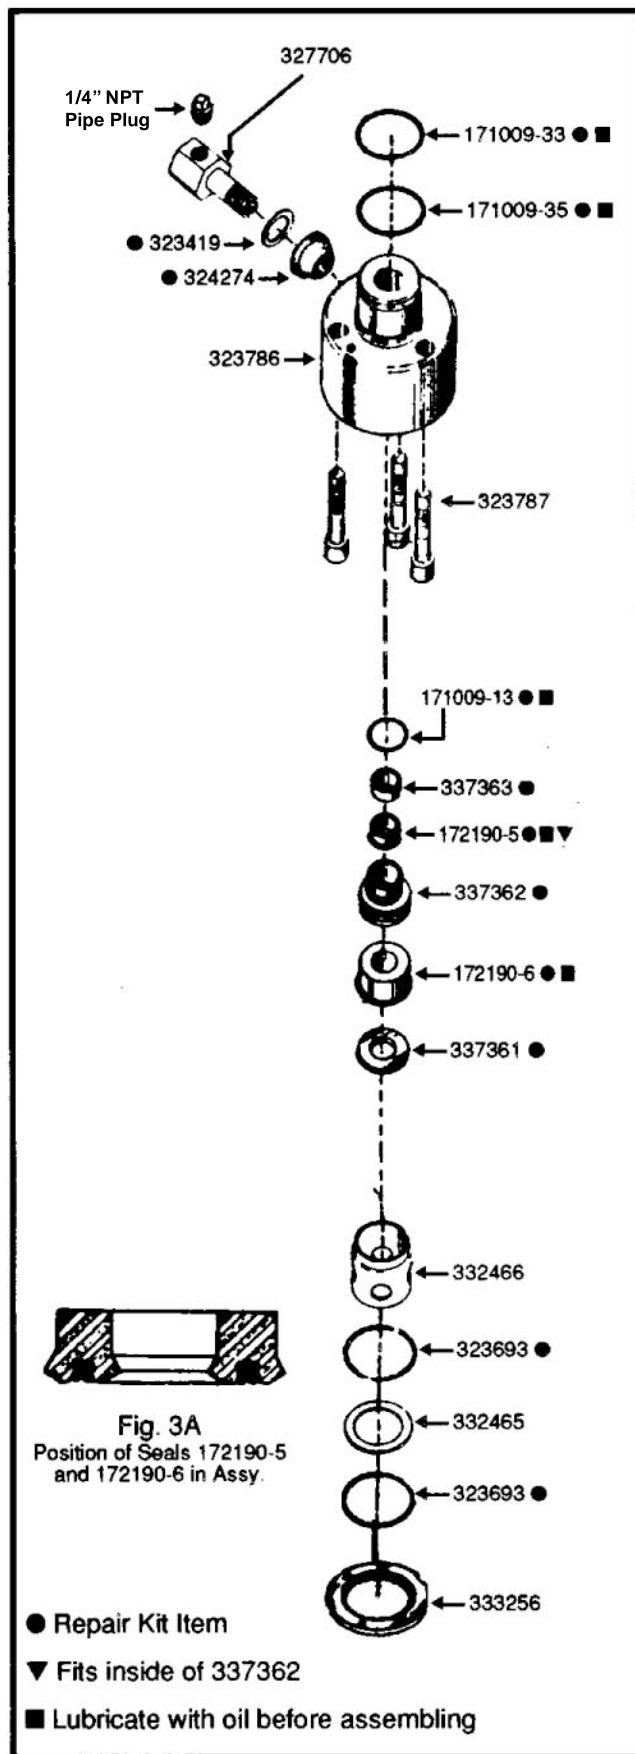

Fig. 3A
- NOTE:** At reassembly, lips of seals 172190-5 and 172190-6 must face downward as shown in Figure 3A.